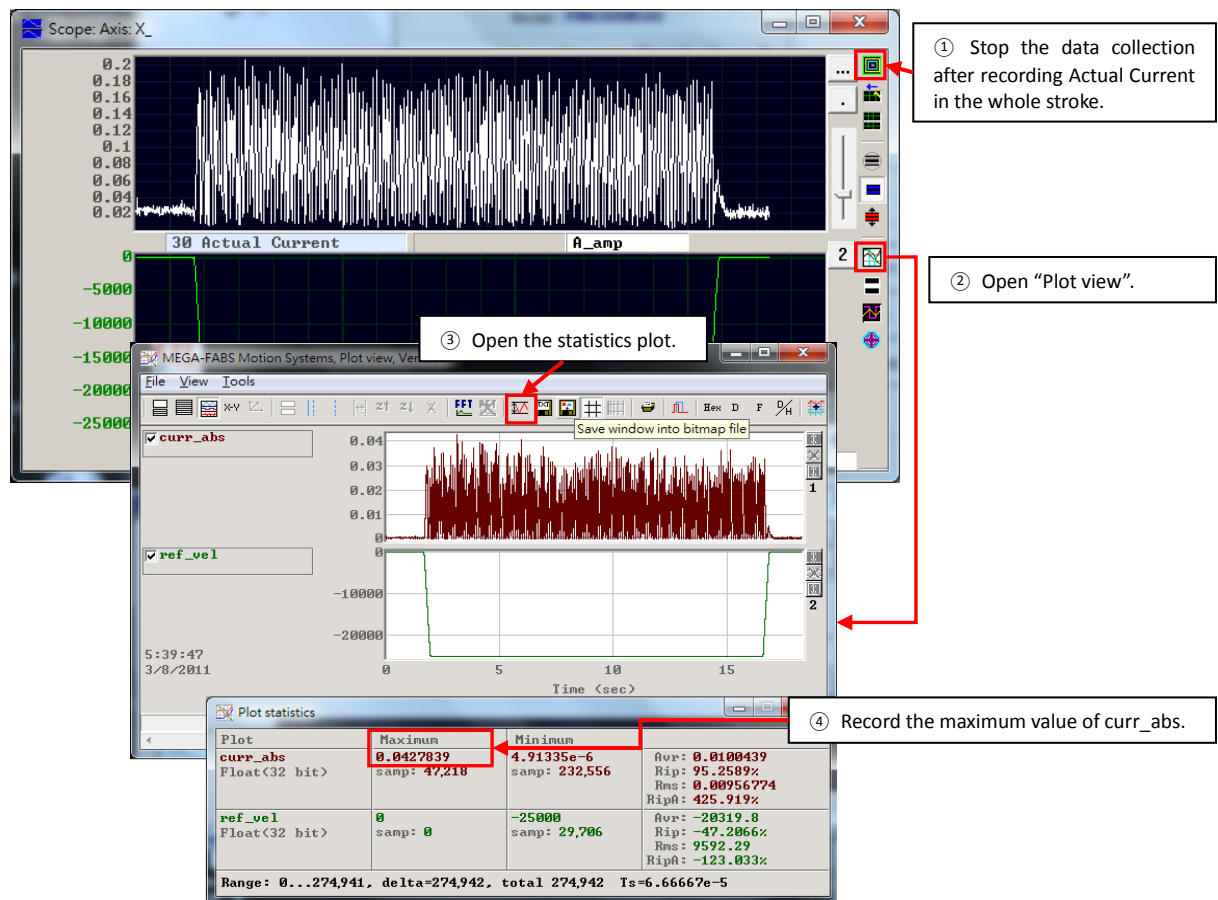

Figure 2-2 Observe the Scope and set the current threshold
Step 5. Set the current threshold slightly larger than the **curr_abs** (unit: A²). In the example of Figure 2-2, the **CurrThreshold** can be set as 0.05.